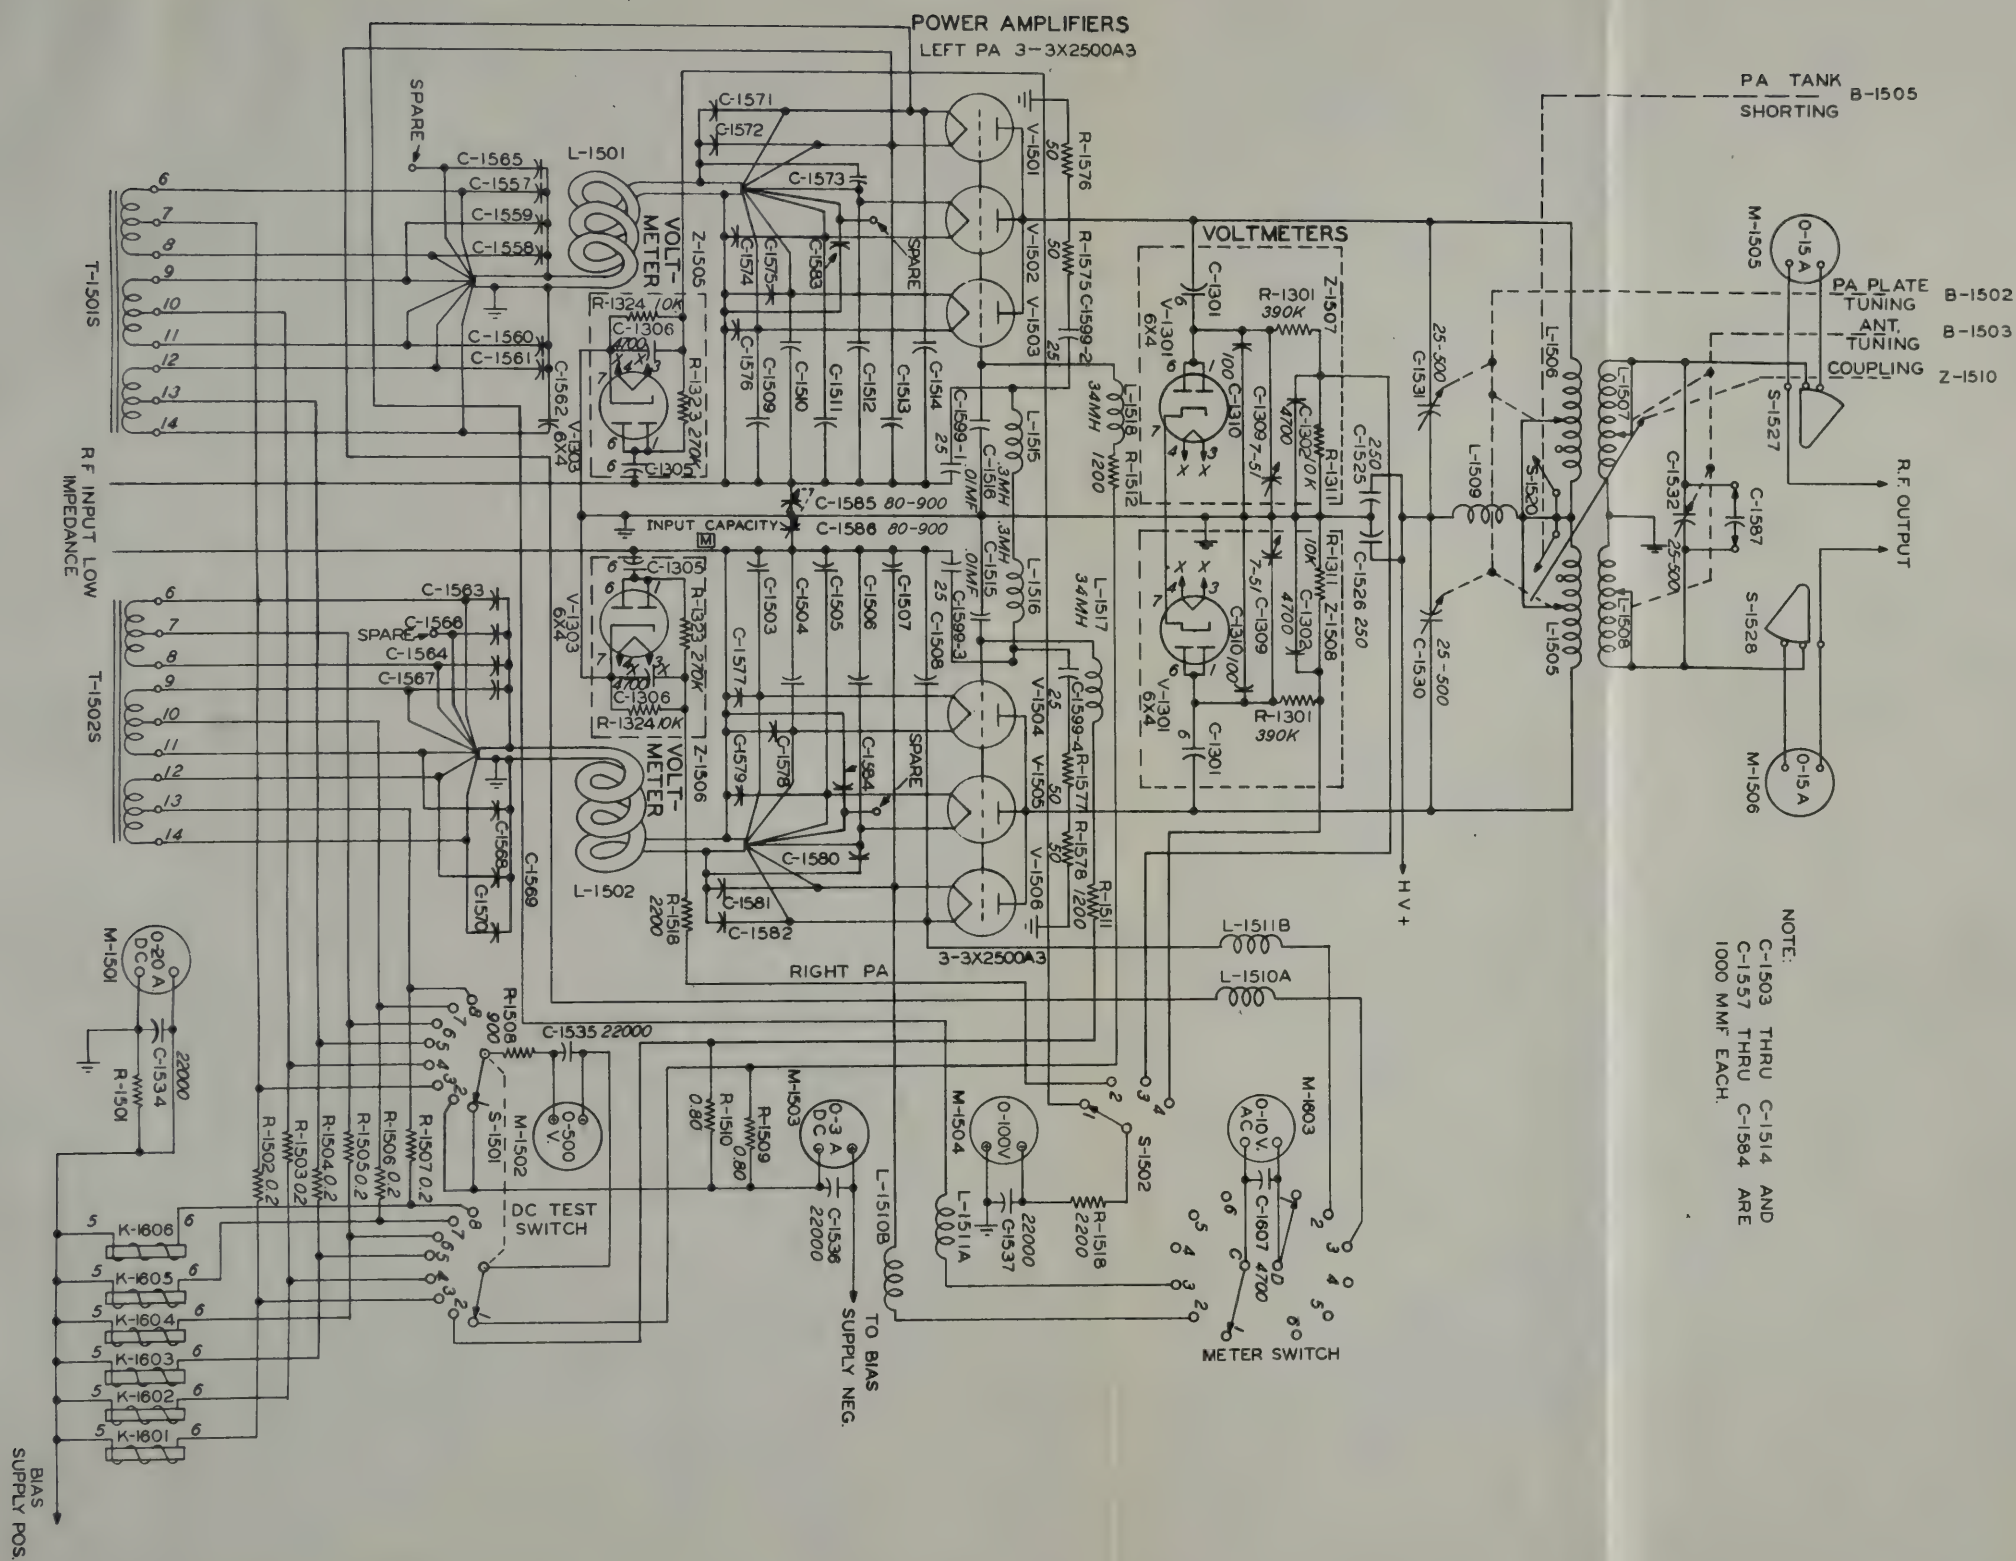

Figure 116. R-F Amplifier AM-738/FRT-22, Power Amplifier Stage, Schematic Diagram.
- (1) *Power amplifiers (fig. 116).* The power amplifier is a push-pull grounded-grid amplifier. Three type 3X2500A3 tubes, V-1501 through
(2) *Output network* (fig. 116). The output coupling network is located at the top of R-F Amplifier AM-738/FRT-22. It consists of a pair of oppositely-wound variable inductors, L-1507 and L-1508, and a vacuum capacitor, C-1432, coupled together in such a manner that a single motor can vary the resonant frequency continuously through the entire range. As seen from the schematic diagram (fig. 116), an additional fixed capacitor, C-1587, is provided, and may be shunted across the variable capacitor C-1532. This fixed capacitor, C-1587, should only be needed when the transmitter is tuned up on 4 mc with a low value of line impedance. At this frequency and with a low-impedance load, the  $Q$  becomes too low to provide proper loading. As the frequency is in-